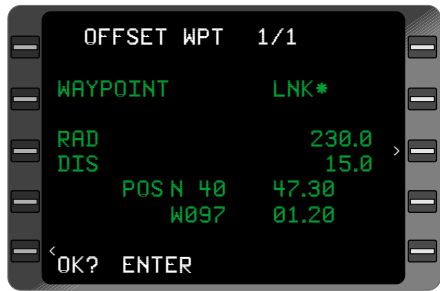

Figure 3-181
8. Waypoint Coordinates - VERIFY for reasonability. (Figure 3-181)